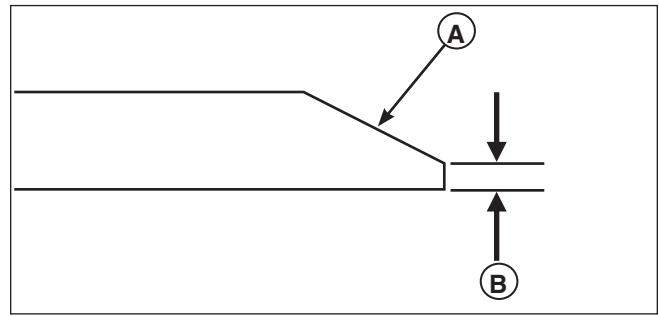

Figure 21. Sharpening the Mower Blade
3. Keep the original bevel (A, Figure 21) when grinding. DO NOT change the mower blade bevel.
4. The mower blade should have a maximum 1/64" (0,40 mm) cutting edge (B) or less.